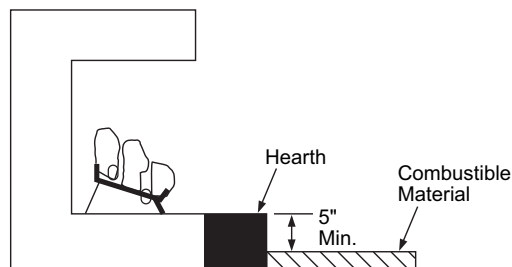

Figure 9 - Minimum Fireplace Clearances Above Combustible Flooring
- B. If combustible materials are less than 14" to the fireplace, you must install appliance at least 5" above the top surface of combustible flooring including tile and carpet (*see **Figure 9***).